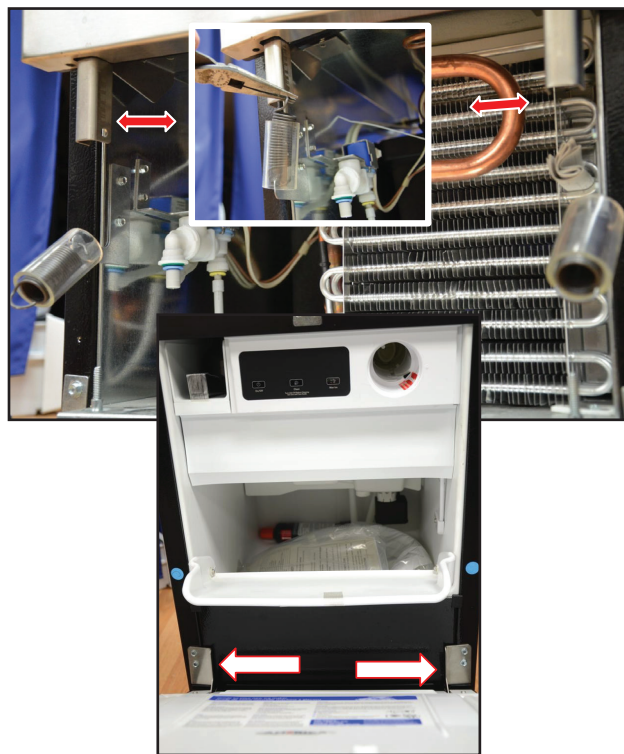

FIGURE 6
2. Support the door so it doesn't get damaged during the removal process. Use pliers to remove the left and right side door springs. Remove 2 screws on the left and right side hinge plates and remove door. See *Figure 6*.